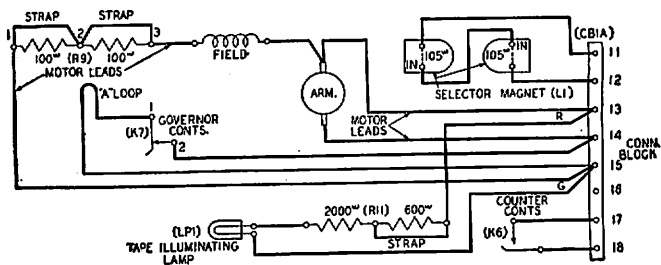

**Fig. 15—No. 14-AA Typing Unit
- Fig. 15—No. 14-AA Typing Unit